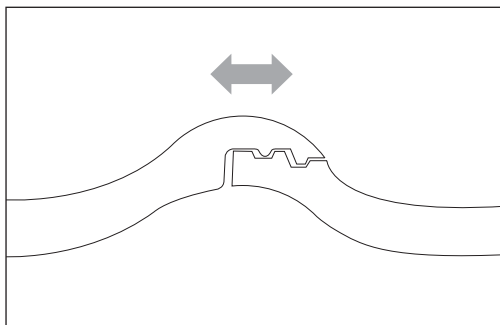

Fig 19 – Interlocking tile 3mm 'shunt'
- Marley interlocking tiles allow a tolerance ('shunt') of approximately 3mm in side lock for adjustment (Fig 19).